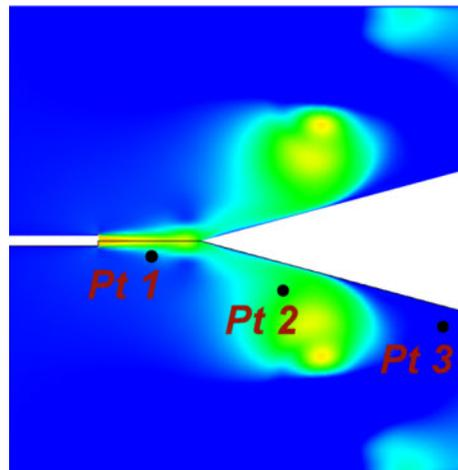

Fig. 6: Monitor Points
- 1: Select monitor points in flow near regions of potential noise sources (see Figure 6).